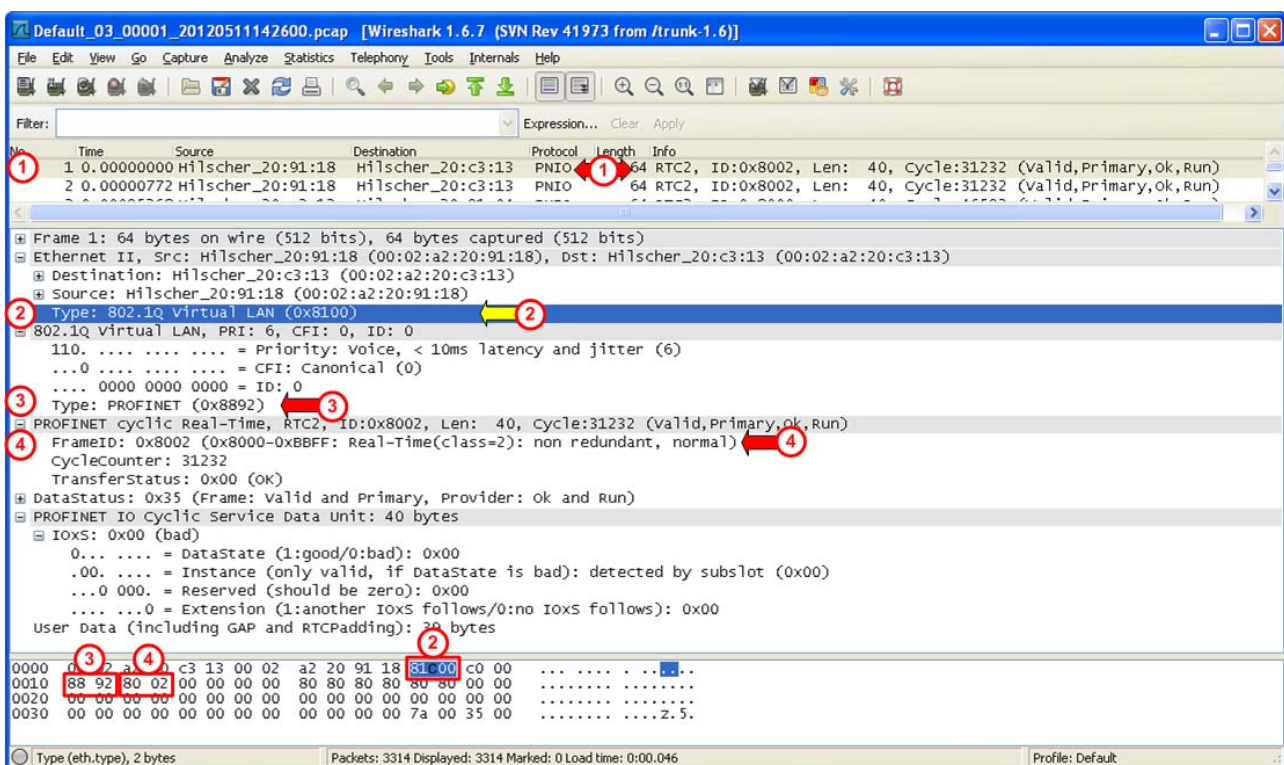

Figure 23. Standard PROFINET Data Set
- Here you can enter the filter data, that you have investigated within Figure 23 below the entry ②:
- Determine the information for entry ③ (PROFINET identification) from Figure 23.
- Tag the entry ① of the filter display above and then add the entry „Bytes [16:17] = 88 92“ with **Add Filter Entry** ② as described already for entry ①.